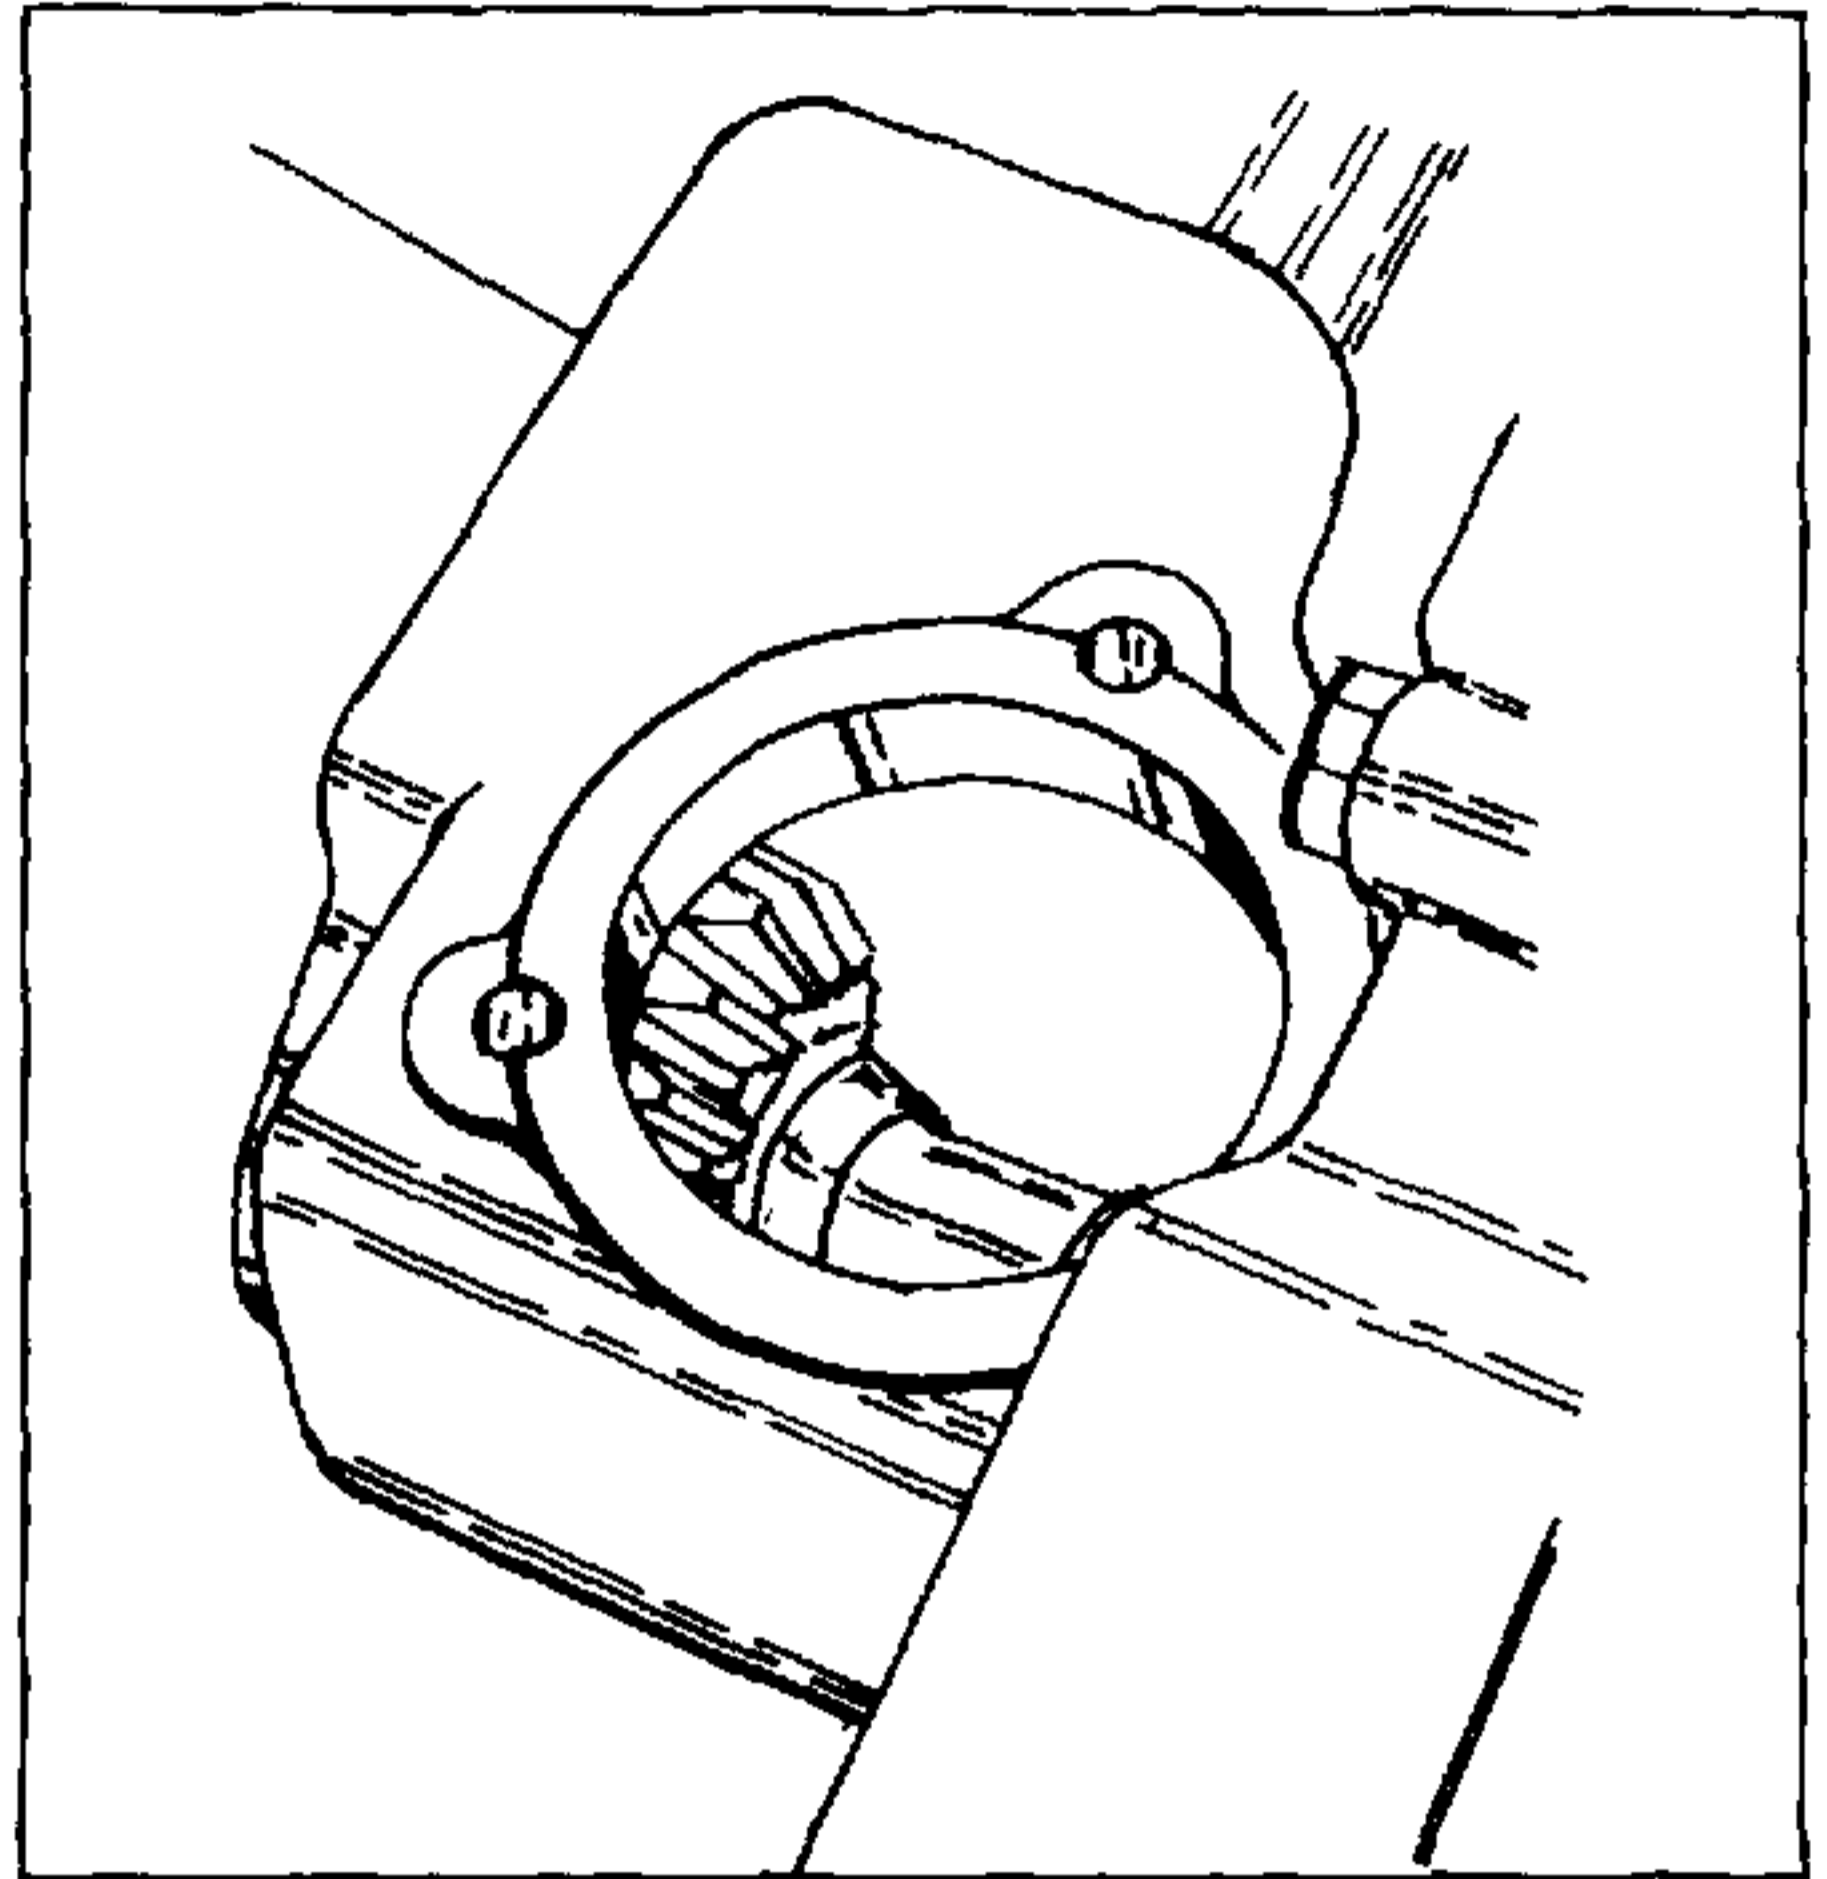
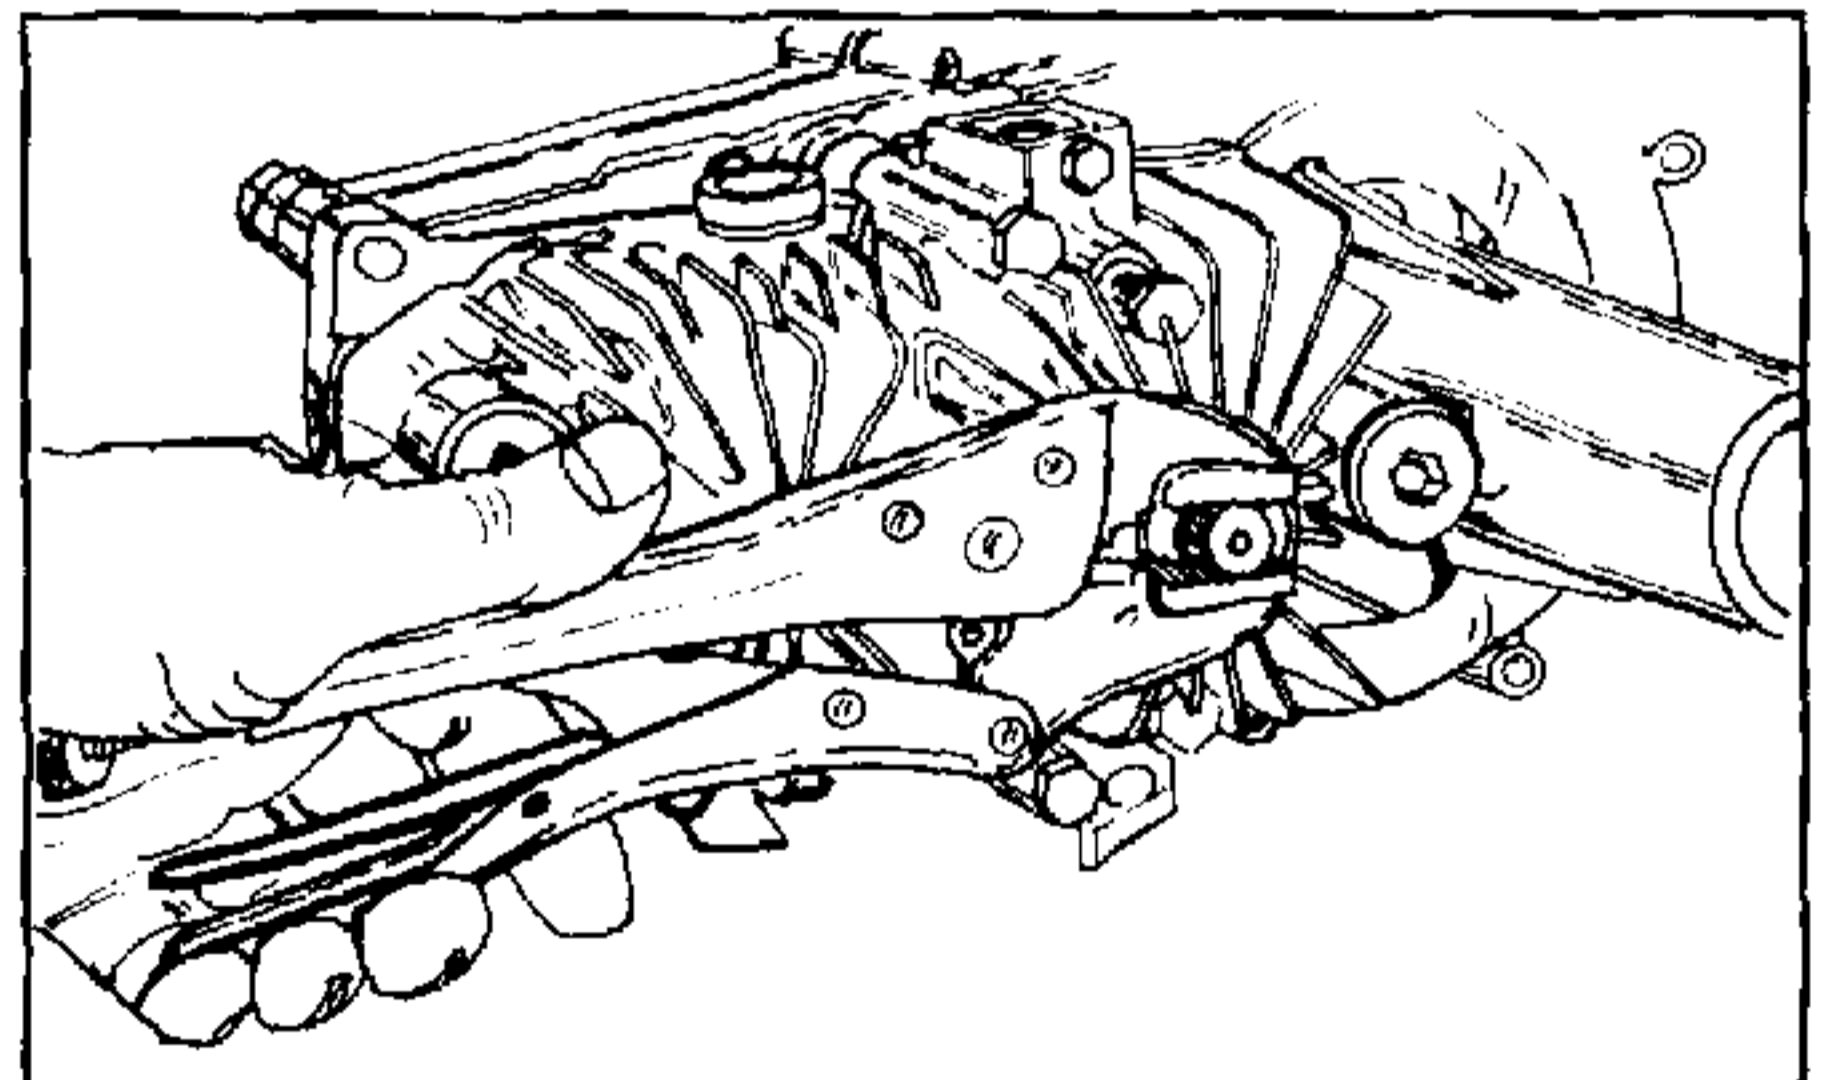

FIGURE 3.
FIGURE 4.
- 3.33 To check driven pinion for damage, look into input opening on transaxle. (Figure 3) Rotate drive shaft on hydro, figure 4 to view teeth of driven pinion. To replace pinion, see section 5.30 DAMAGED DRIVEN PINION.